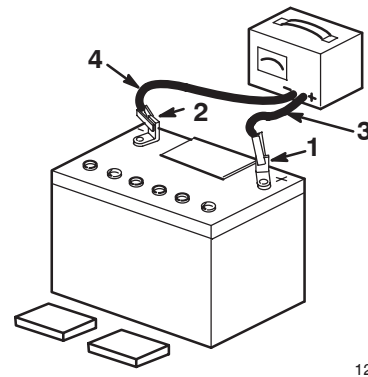

Figure 4
5. Leave the covers off and connect a 3 to 4 amp battery charger to the battery posts (Fig. 4). Charge the battery at a rate of 4 amperes or less for 4 hours (12 volts).